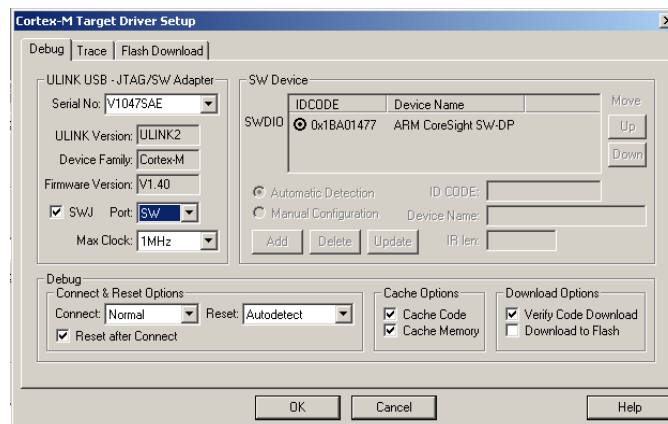

Figure 5: Selecting SWD Mode
You must use Single Wire Debug (SWD) mode to use Serial Wire Viewer. This is configured in  $\mu$  Vision as shown in Figure 5. You must first have a ULINK connected to a Cortex-M3 target.
- 4) Click Settings beside the USE: ULINK Cortex Debugger box to open Figure 5.
The box labeled SW Device (or labeled JTAG Device Chain if JTAG is selected) in Figure 5 will display the CoreSight devices detected in the processor or an error if none are found.
- 5) Select SWJ and SW in the Port: box. Confirm SW-DP is shown as in Figure 5. You must see SW-DP before you continue to Step 6.
Figure 5 shows that the ULINK is now successfully been connected to the CoreSight SWD port.